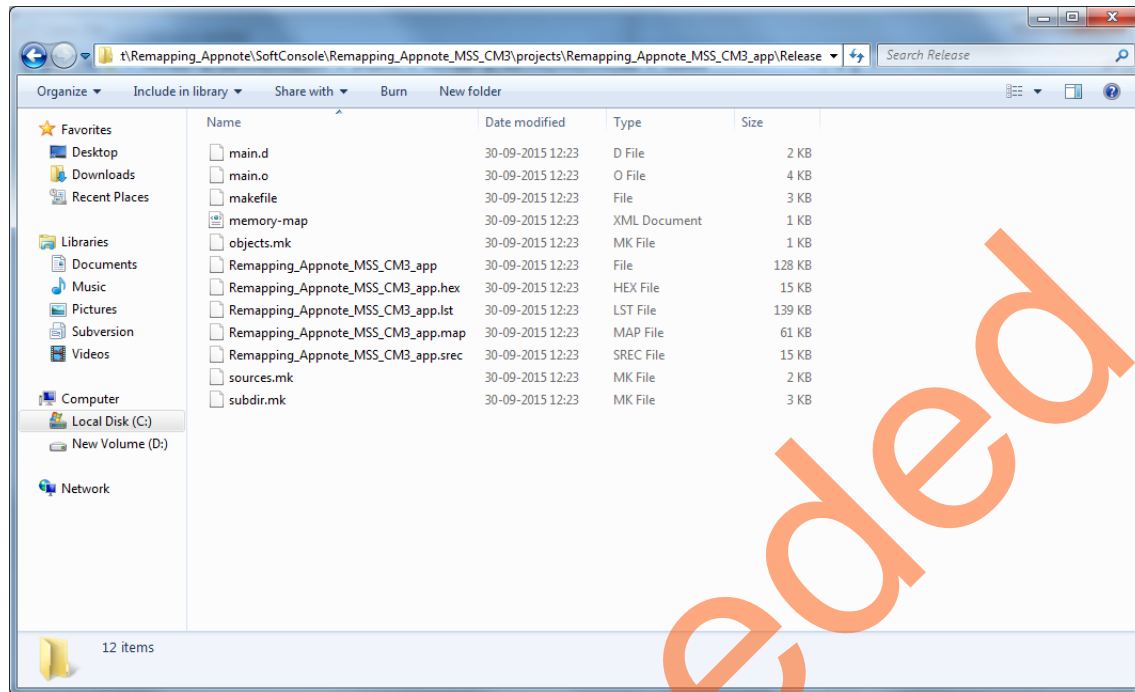

Figure 50 • Browsing through Updated Hex File
3. Browse through the updated .hex file, see Figure 50. Click **Ok**.